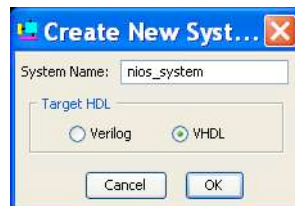
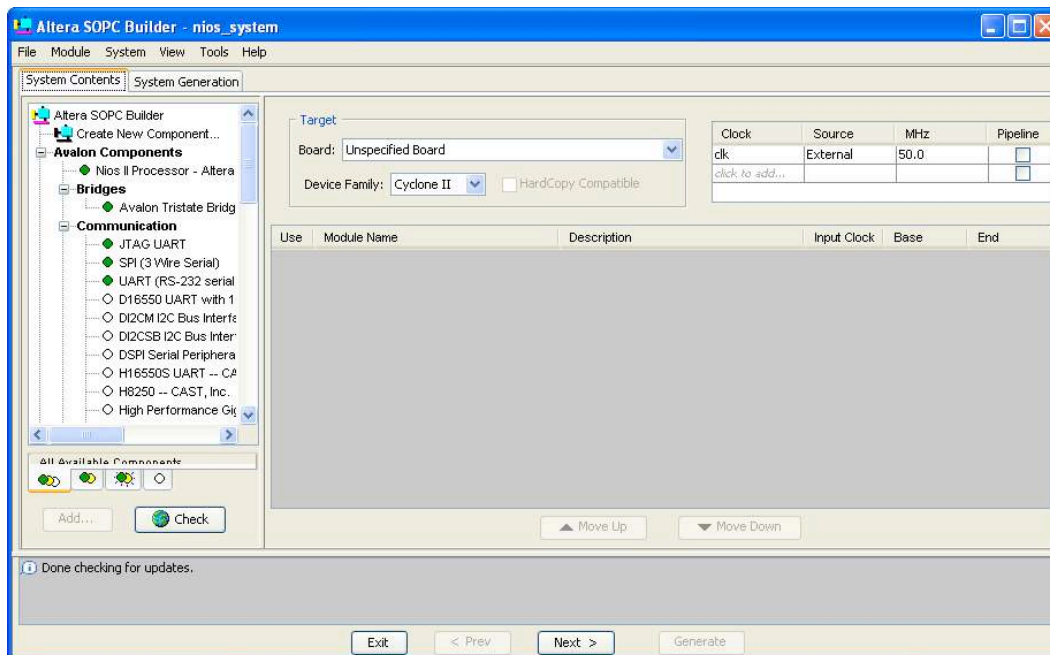
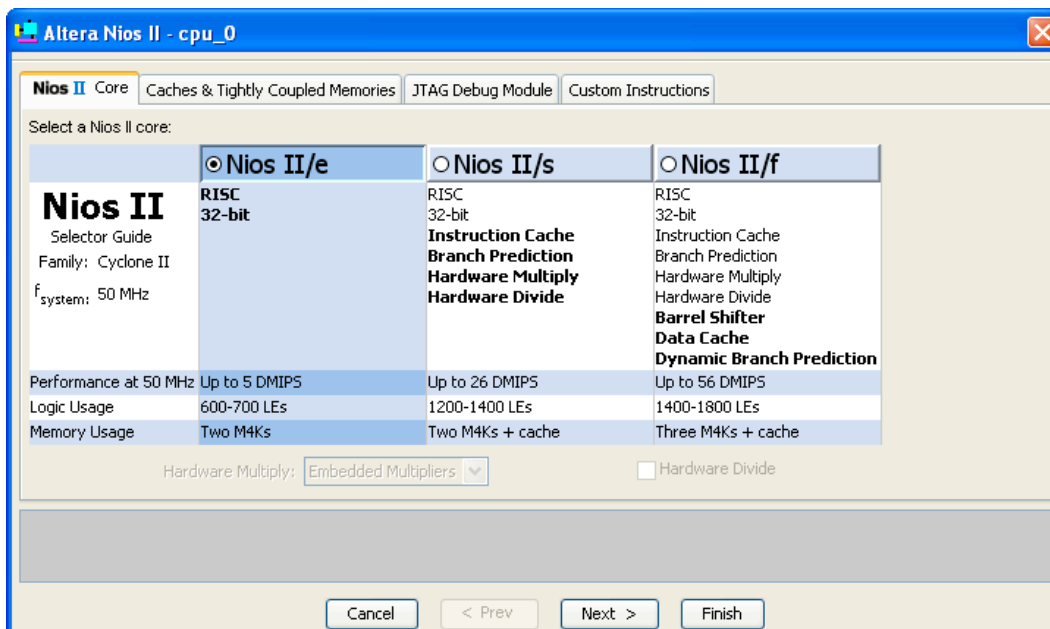
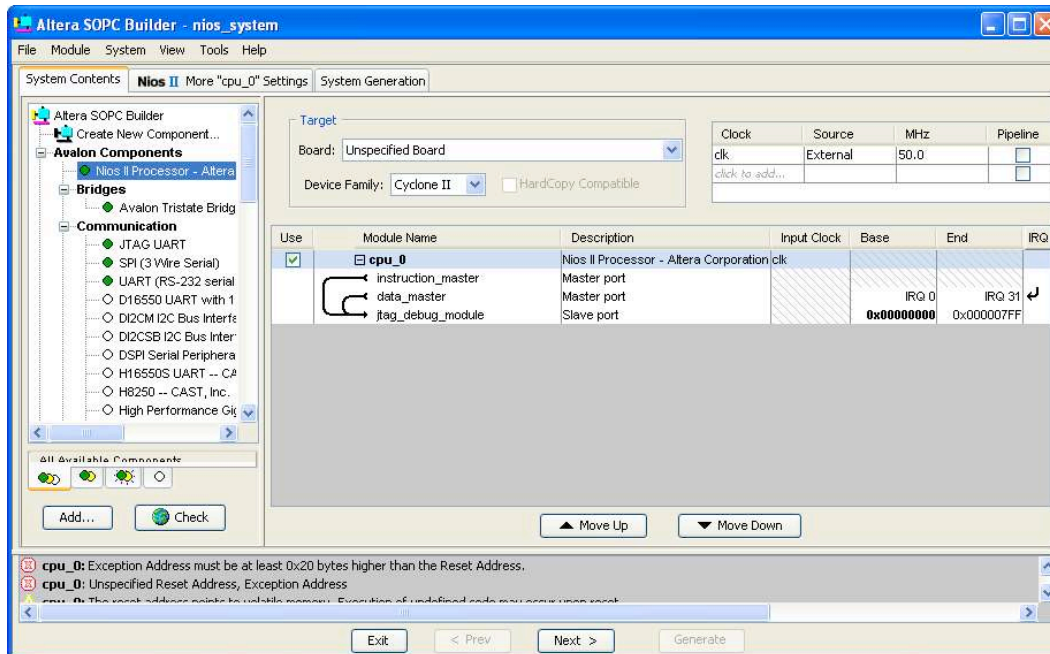

Figure 4. Create a new Nios II system.
Figure 5. The System Contents tab window.
Figure 6. Create a Nios II processor.
Figure 7. The defined processor.
2. Select **Tools > SOPC Builder**, which leads to the pop-up box in Figure 4. Enter *nios_system* as the system name; this will be the name of the system that the SOPC Builder will generate. Choose VHDL as the target HDL, in which the system module will be specified. Click OK to reach the window in Figure 5.
3. Figure 5 displays the System Contents tab of the SOPC Builder, which is used to add components to the system and configure the selected components to meet the design requirements. The available components are listed on the left side of the window. Before choosing our components, examine the area in the figure labeled **Target**. A drop-down list is provided that allows some available Altera boards to be selected. It is not necessary to select a board, and since the DE2 board is not included in the list leave the selection as **Unspecified board**. Next, check the setting for the **Device Family** and ensure that **Cyclone II** is selected.
4. The Nios II processor runs under the control of a clock. For this tutorial we will make use of the 50-MHz clock that is provided on the DE2 board. As shown in Figure 5, it is possible to specify the names and frequency of clock signals in the SOPC Builder display. If not already included in this list, specify a clock named *clk* with the source designated as **External** and the frequency set to 50.0 MHz.
- On the left side of the window in Figure 5 select Avalon Components > Nios II Processor - Altera Corporation and click Add, which leads to the window in Figure 6.
- Choose Nios II/e which is the simplest version of the processor. Click **Finish** to return to the window in Figure 5, which now shows the Nios II processor specified as indicated in Figure 7. There may be some warnings or error messages displayed in the SOPC Builder Messages window (at the bottom of the screen), because some parameters have not yet been specified. Ignore these messages as we will provide the necessary data later. Observe also that a new tab called **Nios II More “cpu_0” Settings** appears, which allows further configuration of the processor - we will not use it.